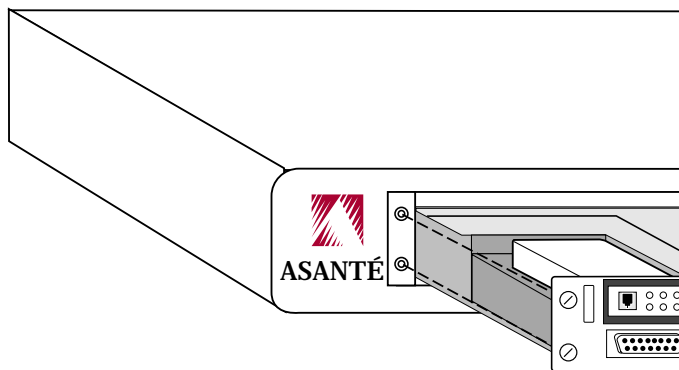

Figure 2 The Mini MAU filler plate in the RJ45B Module
- 1** Unscrew the two ejector screws on each side of the module's front panel and pull out the module approximately four to five inches from the chassis. See Figure 2.